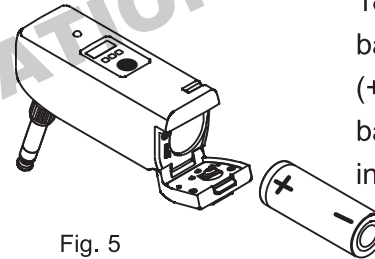

Fig. 5
(B) Install a fully-charged battery with positive (+) polarity end of battery towards inside, Fig. 5.